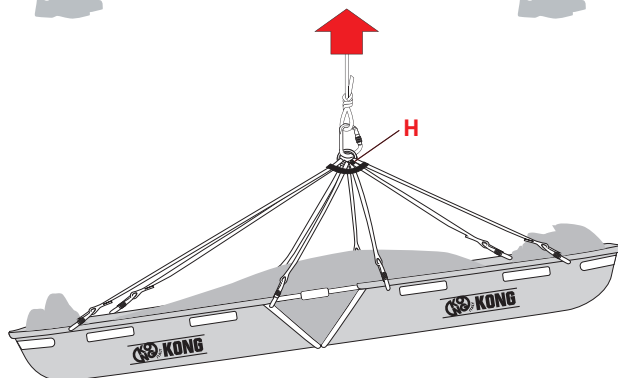

Fig.3
- 1:10 = usable load: 150 kg for lifting with rescue devices using the suspension assembly ((H) - (Fig. 3).
- 1:14 = usable load: 100 kg for lifting / lowering and transport by helicopter using the suspension assembly (H) - (Fig. 3).